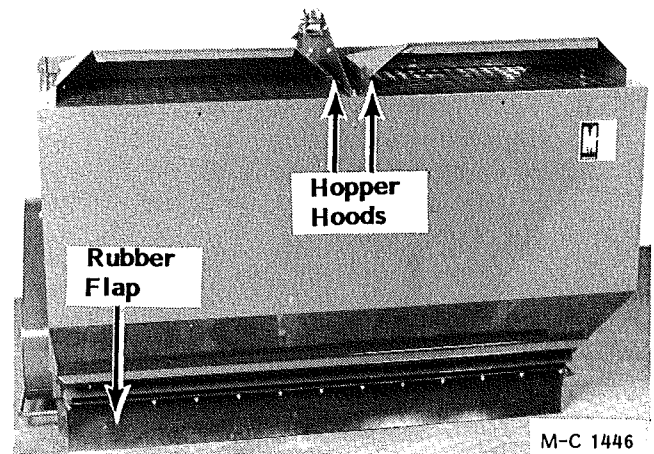
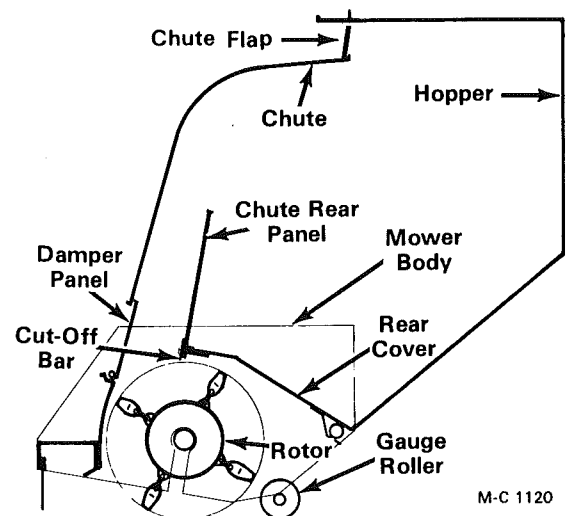

Figure 4
Figure 4A
4. Install the chute flap to the angle at the top of the chute using  $\frac{1}{4}$  x  $1\frac{1}{4}$ " hex-head capscrew, bolt, flatwasher, lockwasher and nut. See Figure 4A.
6. Install hoods (2) over holes on hopper top with larger open end to rear using  $\frac{1}{4}$  x  $\frac{1}{2}$ " truss head bolt, lockwasher and nut.
7. Install hopper extension angle and rubber flap to bottom of hopper as shown in Figure 4. Extension angle is factory attached to the rubber flap.
clearance between the knives and cut-off bar at the bottom of the chute rear panel as follows, see Figure 4A and 4B.